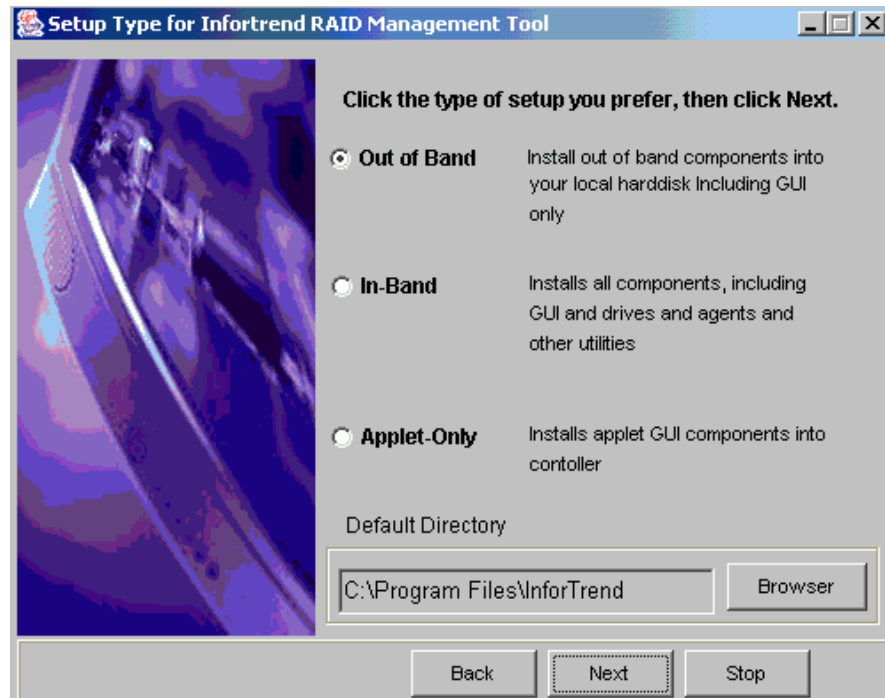

Figure 2-3: Installation Options
Step 7. If you accepted the License Agreement in *Figure 2-2*, a new window with three installation options will appear. These options, shown in *Figure 2-3*, are *Out-Band*, *In-Band*, and *Applet Only*.
Step 1. Use the cursor to select the “*Out of Band*” option in *Figure 2-3*. The application and the files associated with the GUI will be stored in the
Step 1. Use the cursor to select the “*In-Band*” option in *Figure 2-3*. The application and the files associated with the GUI will be stored in the
- Step 1.** Stop the RAIDWatch Installation Program. To do this, use the cursor to click the "Stop" button in *Figure 2-3*.
Step 1. Once space has been reserved on the controller, follow the instructions outlined in *Section 2.4.2* until the Installation Options screen shown in *Figure 2-3* appears.
Step 2. Use the cursor to select the “*Applet*” option in *Figure 2-3*. The application and the files associated with the GUI will be stored in the